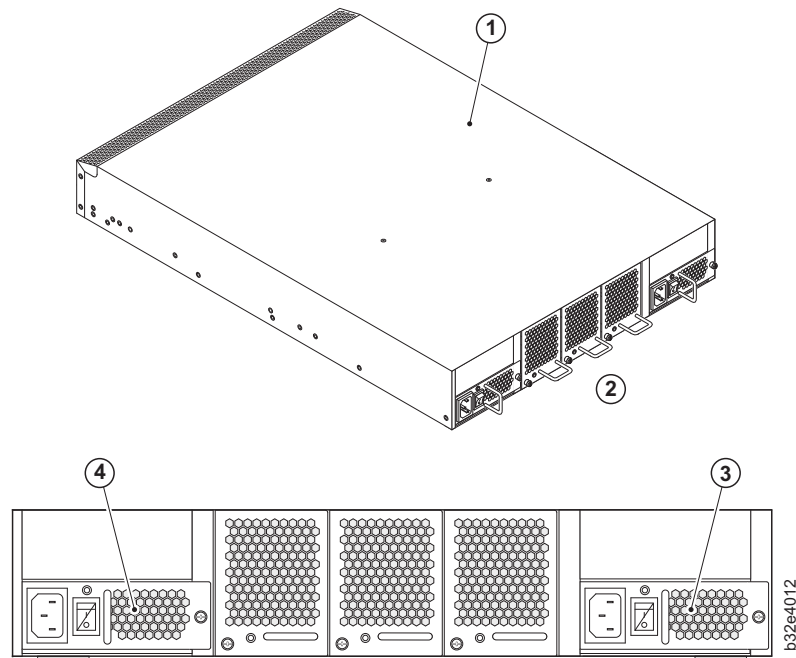

Figure 17. Power supply locations
- Power supply #1 (**3** in Figure 17 on page 37) on the right
The switch has two power supplies (**3** and **4** in Figure 17).